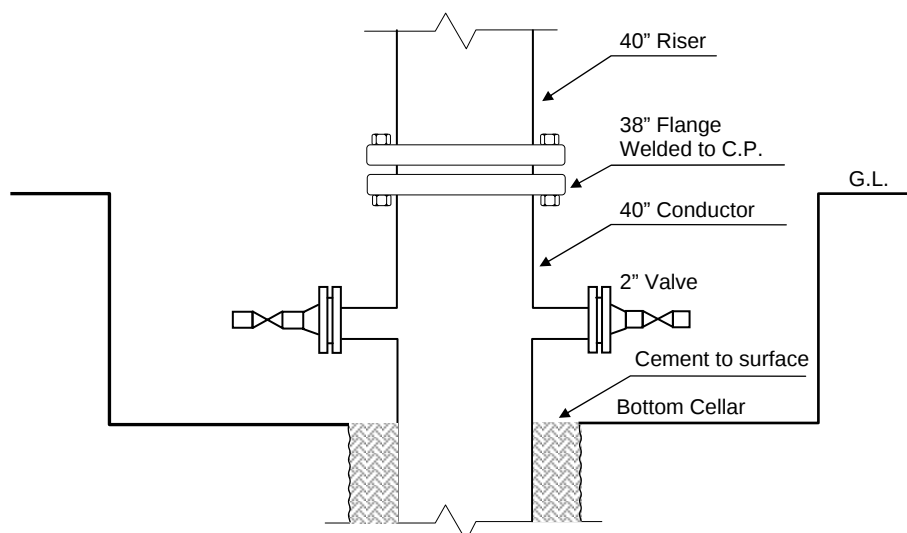

Figure 2- 5: 40" Conductor pipe while drilling 36" hole
- Prior to spudding in, nipple up 40" bell nipple and make up to the conductor if applicable Figure 2- 5.